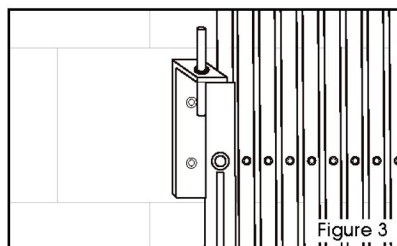

Figure 3
- Extend gate and hang "L" bracket on top of gate to verify where it will be mounted. To release tension you may lift the wheel 1/2"-3/4" off the floor. Mark and drill pilot holes into door frame or wall. It may be easier to drill pilot holes if you remove the gate from its floor mount. Place bearing washer and bottom gate pin back into floor mount. Slip "L" bracket over top of gate and bolt (not included.) (See Figure 3)